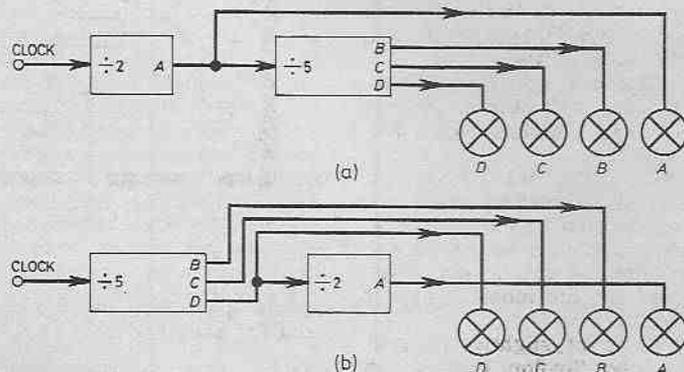

Fig. 5.3. Two ways of connecting the elements of a 7490 to produce a divide-by-ten stage.
Problem: Fig. 5.3 shows that there are two ways of connecting the two dividers. Both of these arrangements divide by 10, but what is the difference in their action? Try it and see (answer (1)).